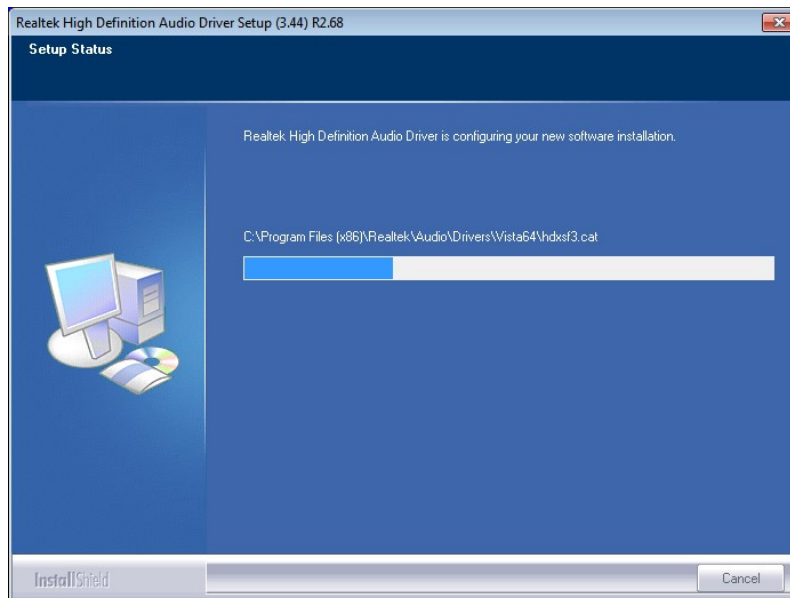

Figure 6-17: Audio Driver Installation
Step 7: The program begins to install. The installation progress can be monitored in the progress bar shown in **Figure 6-17**.